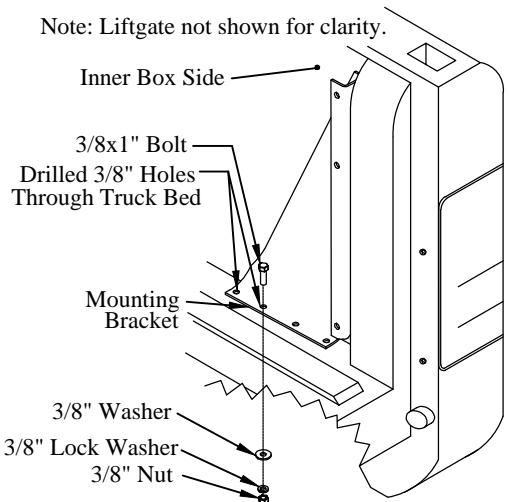

Figure 12: Mounting bracket.
Choose two of the four holes provided with no obstructions on the underside (Figure 12).
- (2) 3/8"x1" hex head bolts on the top-side (Figure 12).
- (2) washers, (2) lock washers, and (2) hex nuts on the under-side (Figure 12).